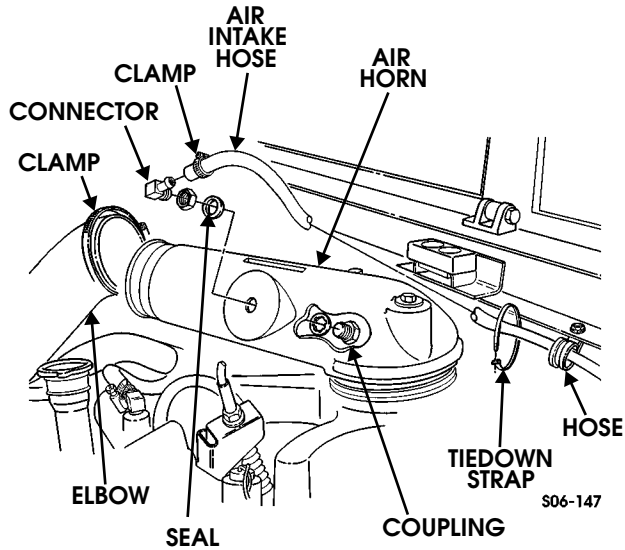

Figure 6-77: Air Intake Hose
2. Loosen hose clamp and disconnect air intake hose from connector (Figure 6-77).
2. Install seal, coupling, washer, nut, and connector to air horn (Figure 6-77).